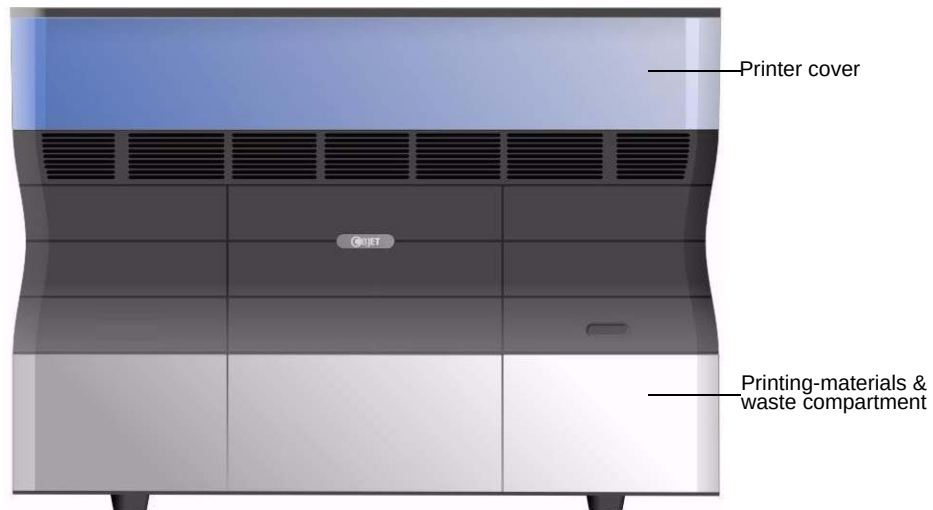

Figure 7-1: The Alaris30 3-D Printer
1. On the front of the Alaris30 printer (see figure 7-1), push the printing-materials drawer to release it and pull it open.